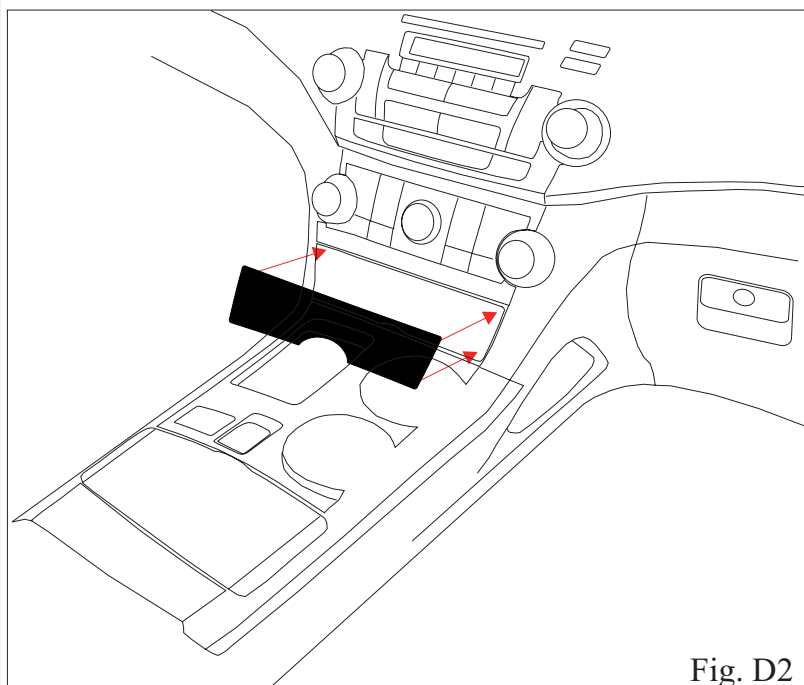

Fig. D2
A. Align part uniformly to edge of factory components. Edge of appliqué should be flush to edge of factory component,  $\pm 1.0\text{mm}$ . (Fig. D2).